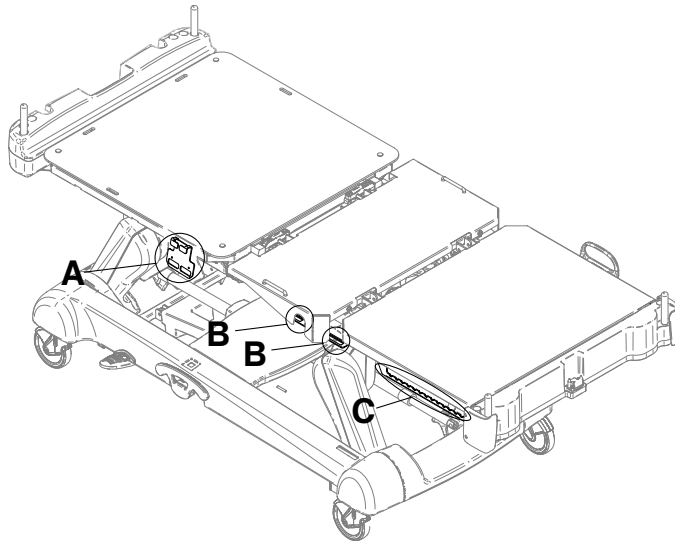

Figure 11: Foley bag hooks
There are two isolated foley bag hooks under the seat section (B) on both sides of the product (Figure 11 on page 29). If you weight the patient with the scale system, the isolated foley bag weight is not included with the patient weight.
There are four foley bag hooks under the fowler section (A) and foot section (C) on both sides of the product (Figure 11 on page 29). If you weigh the patient with the scale system, the foley bag weight is included with the patient weight.